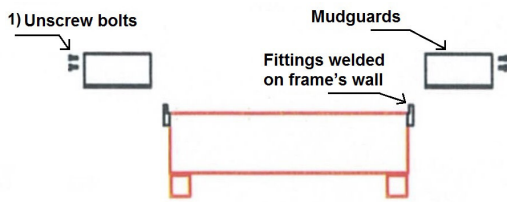

Fig. 1
- Get mudguards off. (FIG. 1,2)